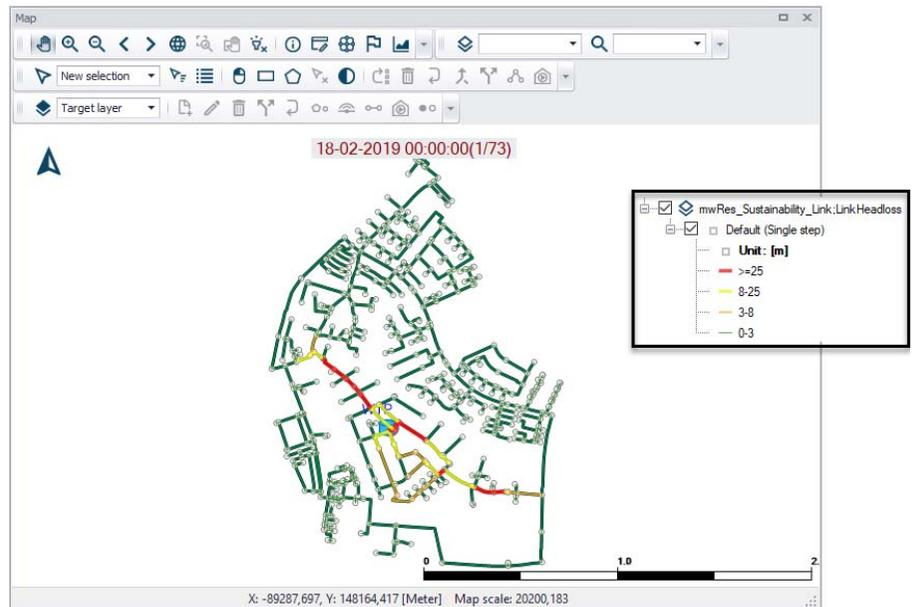

Figure 19.98 Example Sustainability Analysis Unit Head Loss results on the Map
Results from running the tool are added to the Map (Figure 19.98).
- Unit head loss: Link head loss per 1000 (see Figure 19.98)